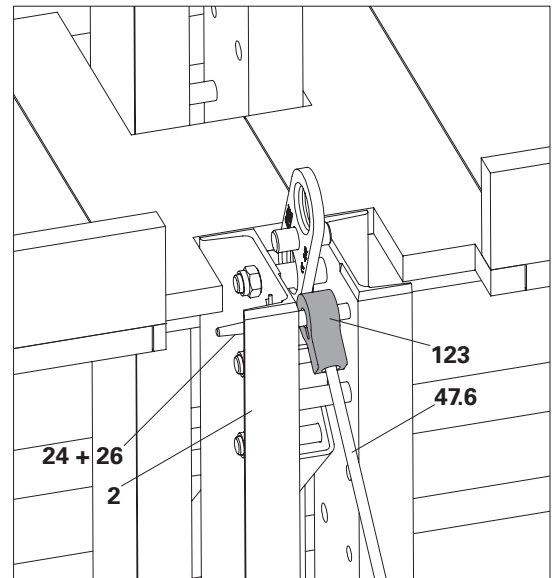

Fig. D1.09a
1. Screw the tie rod (**47.6**) into the eye nut (**123**). (Fig. D1.09a)